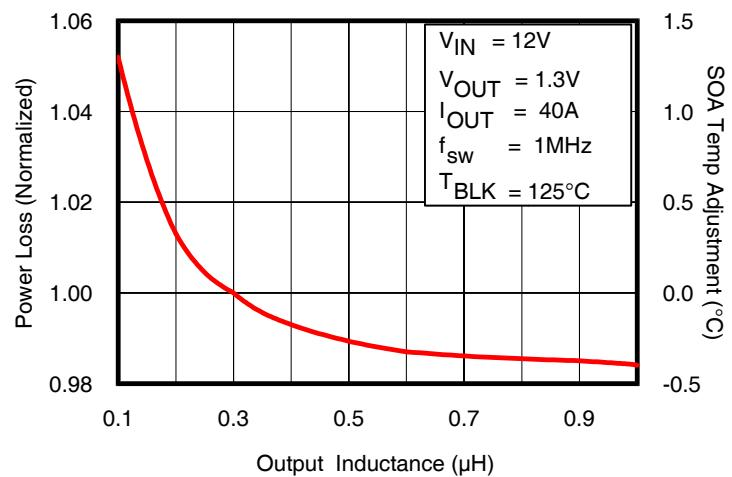

Fig. 6: Normalized Power Loss vs. Inductance
- (Fig. 6) Normalized power loss for inductor value  $\approx 1.013$
- (Fig. 6) SOA Temperature Adjustment for inductor value  $\approx 0.25^{\circ}\text{C}$